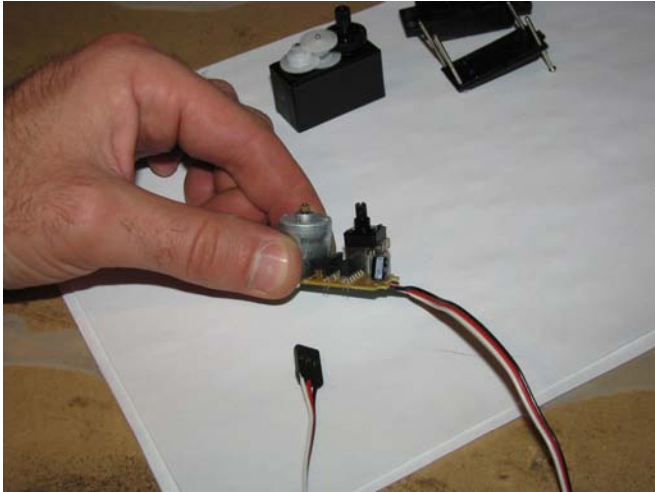

Figure 4-17. Remove circuitry, and de-solder motor from PCB, then cut the red, white, and black wires from the PCB.
2. Remove motor with PCB and potentiometer as shown in Figure 4-17. This might take some finesse to keep from breaking any plastic pieces on the housing, but be gentle and you should have no problems.